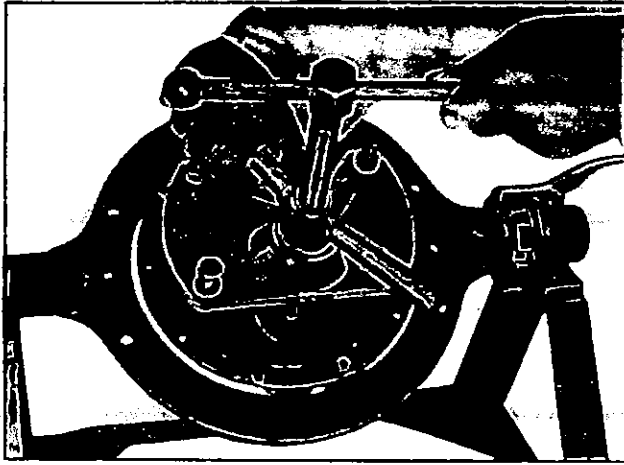

Fig. 7 Drive Pinion Front and Rear Bearing Outer Race Replacer
13) To pull out the front bearing outer race from the gear carrier, set the tool body (3) as illustrated in Fig. 7 pull it out with adapter (B) in the way of rear race.